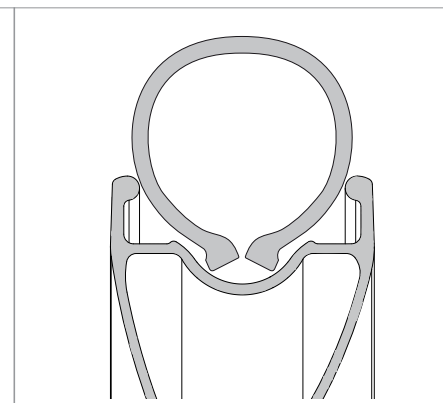

Fig.14
- Fit a second tyre bead, starting from the opposite side of the valve (Fig.14).